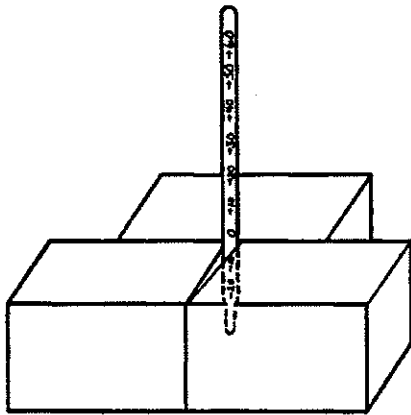

Figure 4
- a. In freezer compartment, place thermometer snugly between packages of frozen food for 5 to 8 hours. See Figure 4. If temperature is not between 0°F and $+2^{\circ}\text{F}$ (-18°C and -17°C), adjust control one number at a time and check again after 5 to 8 hours.